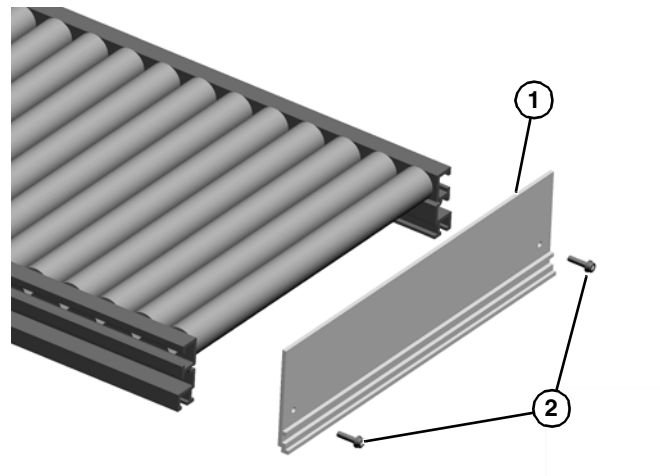

**Figure 4**
3. Insert t-bars (**Figure 4, item 1**) into conveyor t-slots (**Figure 4, item 2**) on each side of conveyor.
4. Attach clamp plate (**Figure 4, item 3**) with four screws (**Figure 4, item 4**) on each side of conveyor.